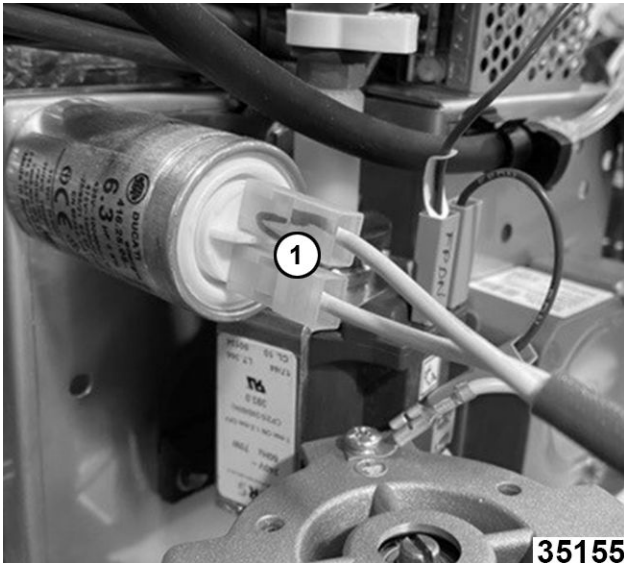

Fig. 34
2. Note and disconnect capacitor wiring (1, Fig. 34).